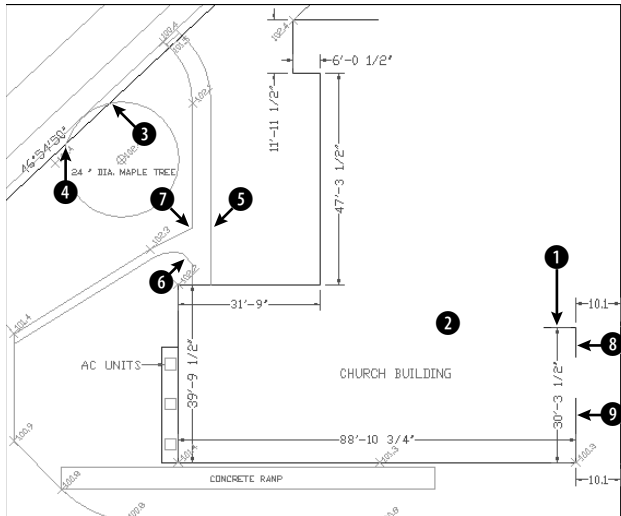

**Figure 10-27:** A site plan.
2. Save the file as ab10-09.dwg in your AutoCAD Bible folder. This is a site plan, as shown in Figure 10-27. Turn on OSNAP and set running object snaps for endpoint and intersection.
3.  Choose Break from the Modify toolbar. At the Select object: prompt, pick the line at ❶. At the Specify second break point or [First point]: prompt, pick ❷. This action shortens the line.
4. Repeat the BREAK command. At the Select object: prompt, pick the circle (it's a maple tree) anywhere along its circumference. At the Specify second break point or [First point]: prompt, right-click and choose First point. At the Specify first break point: prompt, pick the intersection at ❸. At the Specify second break point: prompt, pick the intersection at ❹ to break the circle.